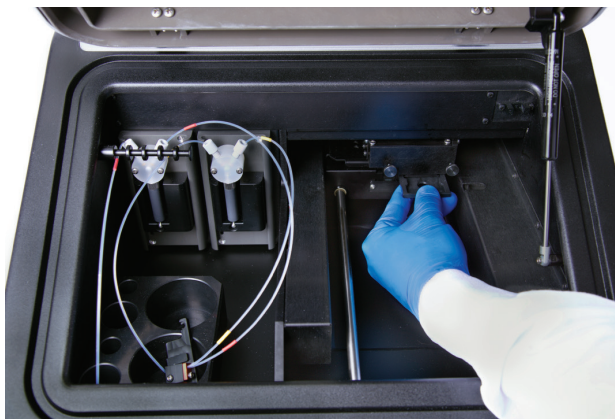

Figure 95. Remove the Aperture.
4. Place your hand underneath the Optical Head. Grasp the Aperture and pull it toward you (Figure 95).